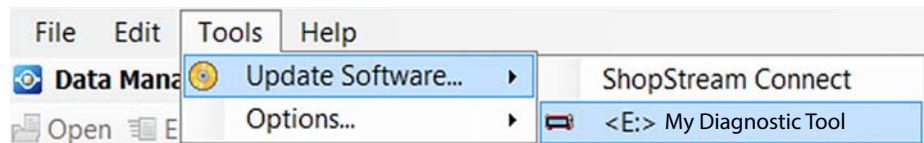

Figure 10-8
1. Select **Tools > Update Software > (diagnostic tool type - e.g. ETHOS Edge, MODIS Edge, SOLUS Edge, etc.)** from the Menu bar (Figure 10-8).